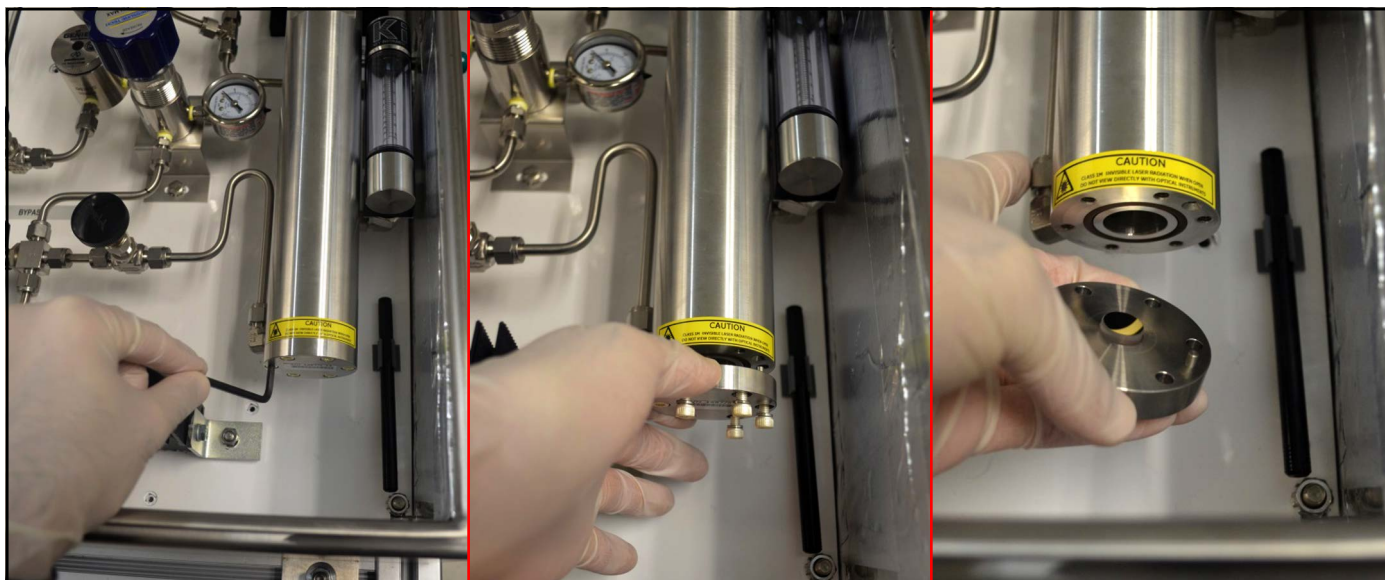
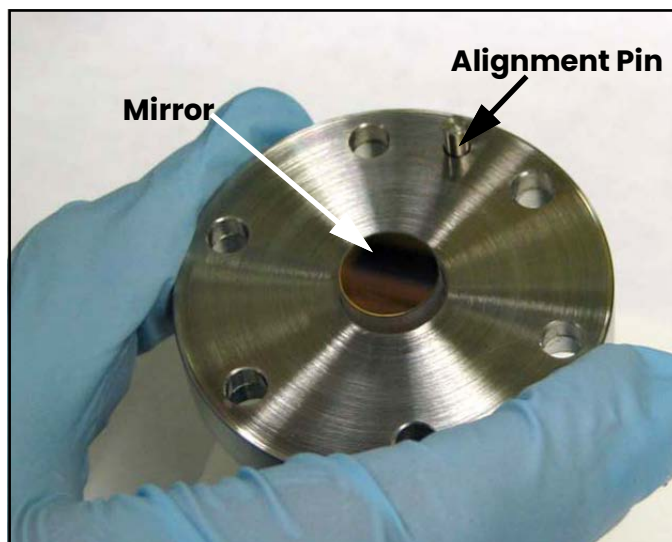

Figure 85: Removing Mirror End Cap Assembly from the Absorption Cell
Figure 86: Handling the Mirror Assembly
1. Remove the 6 hex bolts securing the mirror (see *Figure 85 below*) using a 5/32 inch Allen wrench. Hold the stainless steel base of the mirror with one hand while removing the last retaining bolts. The mirror is removed by pulling it straight down. There is one alignment pin (see *Figure 86 below*) to facilitate proper removal.